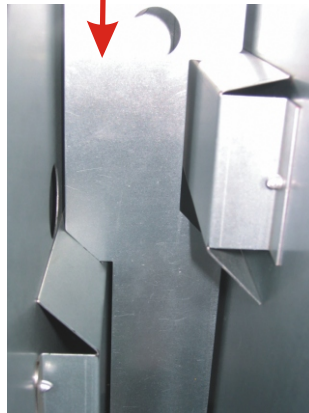

Figure 29
6. Slip the second spacer into the proper front column three slots (left side, right side, and bottom) (*Figure 29*).